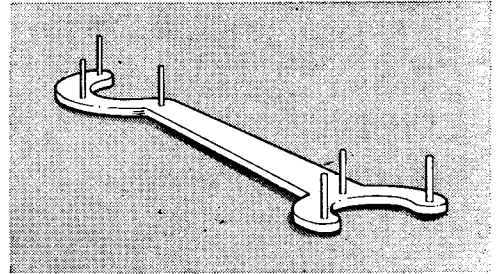

Fig. 12 Peg spanner
b. Peg spanners. This spanner has two (or more) pins which fit into holes in the screw fitting (Fig. 12). The type shown is used for adjusting synchros.